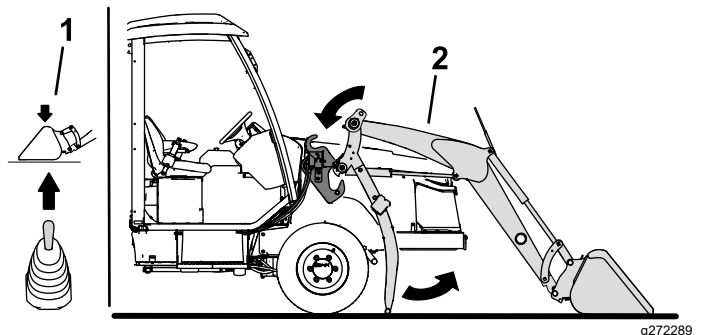

Figure 55
6. Start the engine and use the loader joystick to lower the loader arms into the loader-frame mounts (Figure 55).